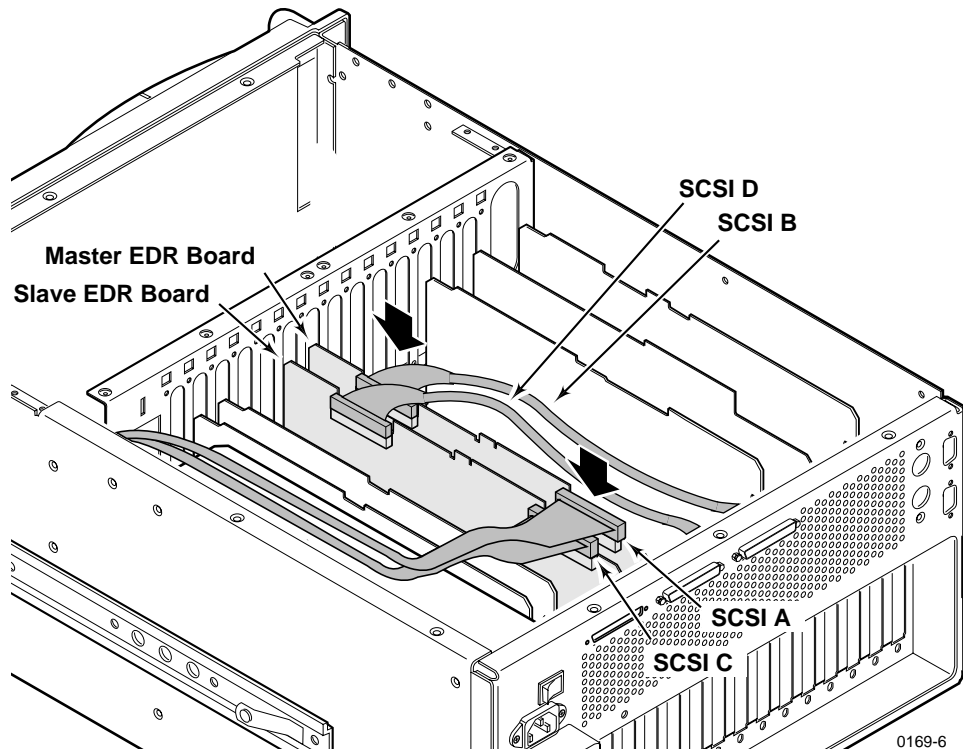

Figure 5. Reconnect the SCSI cables
5. Connect the SCSI cables, as shown in Figure 5.
6. Connect the SCSI cables, as shown in Figure 5 on page 14.
3. Connect the SCSI cables, as shown in Figure 5 on page 14.